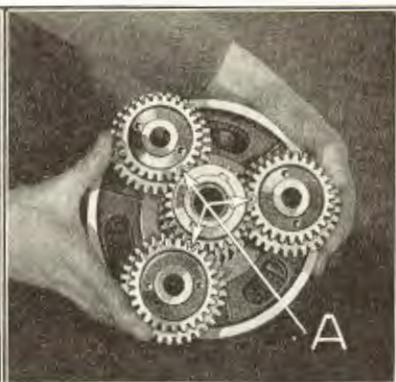

Fig. 201
- 304** Mesh triple gears with driven gear, making sure that the punch marks (See "A" Fig. 201) between the teeth on triple gears mesh with teeth on driven gear. The first triple gear can be meshed at any point on driven gear. The second and third sets of triple gears are assembled in the same manner as the first triple gear, but at intervals of nine teeth or 120° apart on the driven gear.